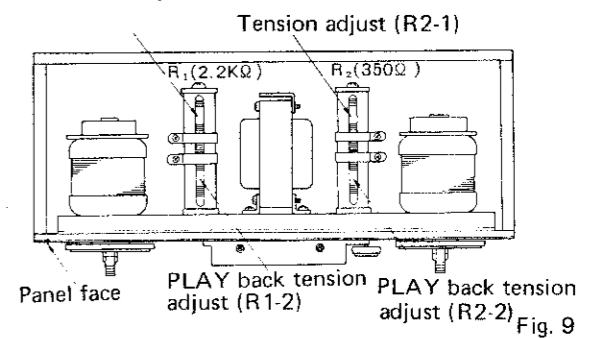

Fig. 9
3. So that this value becomes 93 – 110g (280 – 330 g.cm), adjust slider of R1 2.2k ohms (R1-2). Refer to Fig. 9.
3. So that this value becomes 190 – 210 g (570 – 630 g.cm) adjust slider of R2 350 ohms (R2-2) (Fig. 9).
2. So that this value becomes 35 – 45 g (105 – 135 g.cm) adjust slider of R1 2.2 k ohms (R 1-1) (Fig. 9).